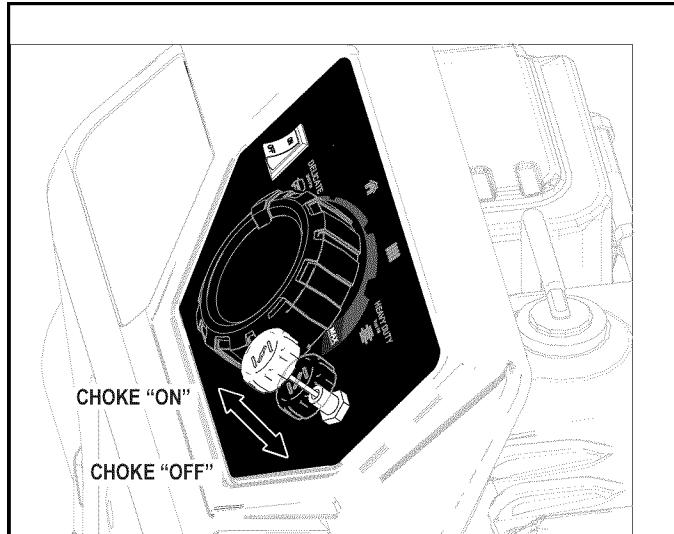

Figure 5-4. Choke Knob
- Choke the engine by slowly pulling out on the choke knob until it stops in the "ON" position (Figure 5-4).
For a warm engine, push the choke knob down until it stops in the "OFF" position (Figure 5-4).